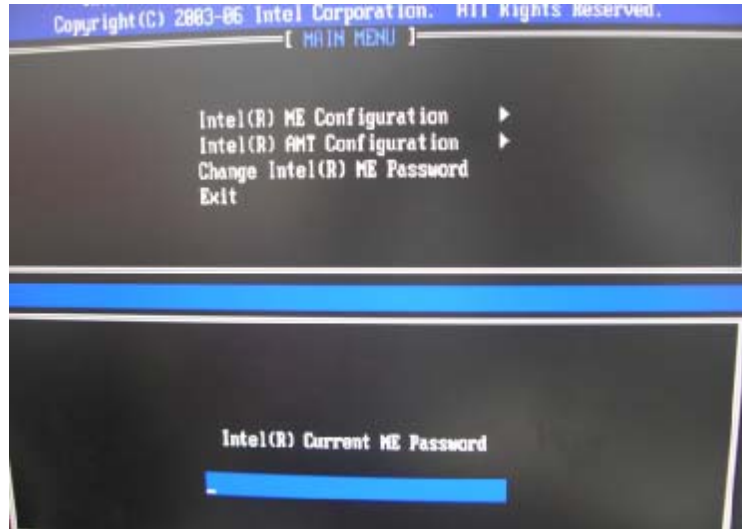

Figure 8-2: Intel® Current ME Password
- Step 2:** Enter the Intel® current ME password as required (**Figure 8-2**). Enter the factory default ME password: **Abab12!@** (the Intel® default password is **admin**).